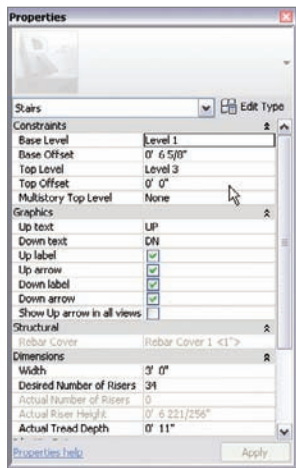

FIGURE 10.64 The Base Offset value is set to 6 5/8”.
2. Set Base Offset to 6 5/8”, as shown in Figure 10.64.